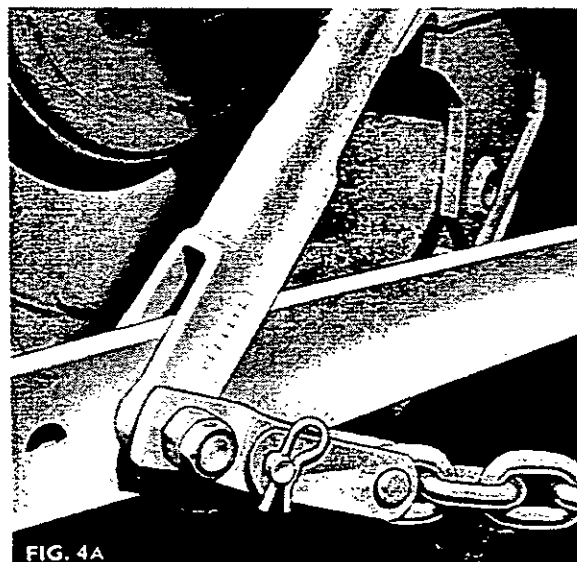

FIG. 4A
**NOTE - FOR CATEGORY 1 IMPLEMENTS, THE CHECK CHAIN LENGTH MUST BE SET AS SHOWN IN FIG. 4A AND FOR CATEGORY 2 IMPLEMENTS, AS SHOWN IN FIG. 4B.**